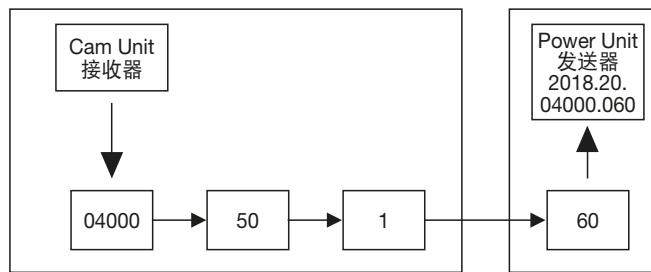

Fig. 1: Selection for example 1 图 1：选择示例 1
**Example 1 (Fig. 1):** A Power Unit 2018.20.04000.060 is provided as standard for a Compact Cam 2018.11.04000.049. The nominal stroke of the Power Unit is 60 mm. The transmission ratio is 1:1. The stroke of the Compact Cam is thus performed at the same speed as the press.
**示例 1 (图 1) :** 使用紧凑型模具滑阀 2018.11.04000.049 时，通常配备一个发送器 2018.20.04000.060。发送器的标称行程为 60 mm。传动比为 1.0。紧凑型模具滑阀的行程按照与压力机相同的速度移动。